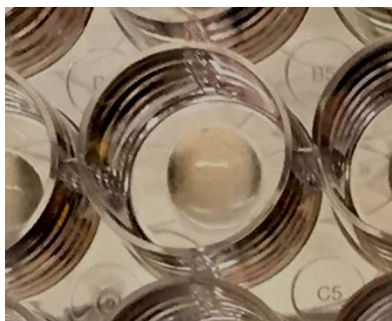

Figure 2. Placement of RGF BME-R1/cell mixture in the center of the well of a 24 well plate.
7. Resuspend Organoid Progenitor Cells: Mouse Small Intestine in 160 µl of RGF BME-R1. Gently pipet up and down three times (be careful not to introduce bubbles) to disperse cells in the RGF BME-R1, and dispense 50 µl of the RGF BME-R1/cell mixture in the center of three wells of the warm (37 °C) 24 well plate (Figure 2).